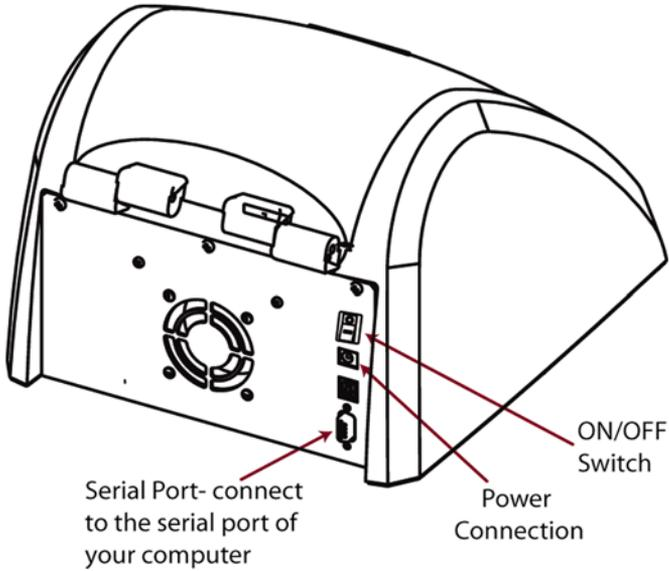

Figure 3
3. Turn ON the ON/OFF switch. (See Figure 3.)